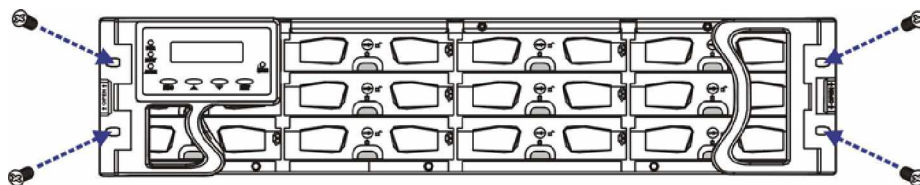

Figure 2-3: Front Ear Holes
- Use M5 or M6 pan-head screws to secure the chassis to the front cabinet posts. The front ear holes are shown in **Figure 2-3**.